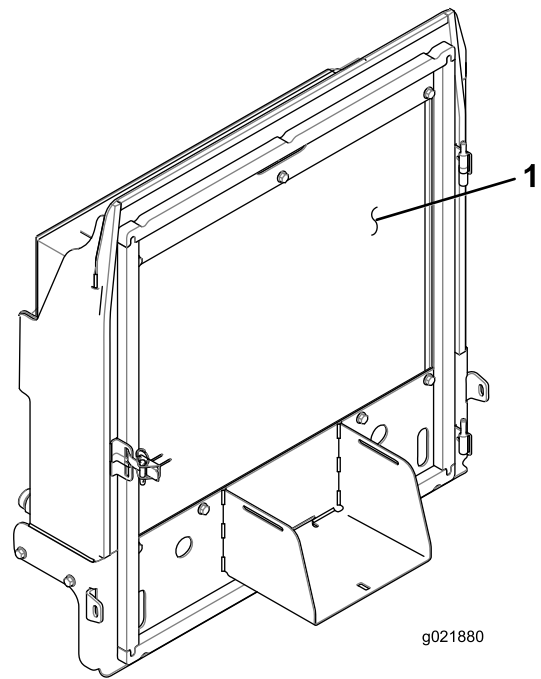

Figure 82
4. Thoroughly clean both sides of the and the radiator/oil cooler (Figure 82) with compressed air.